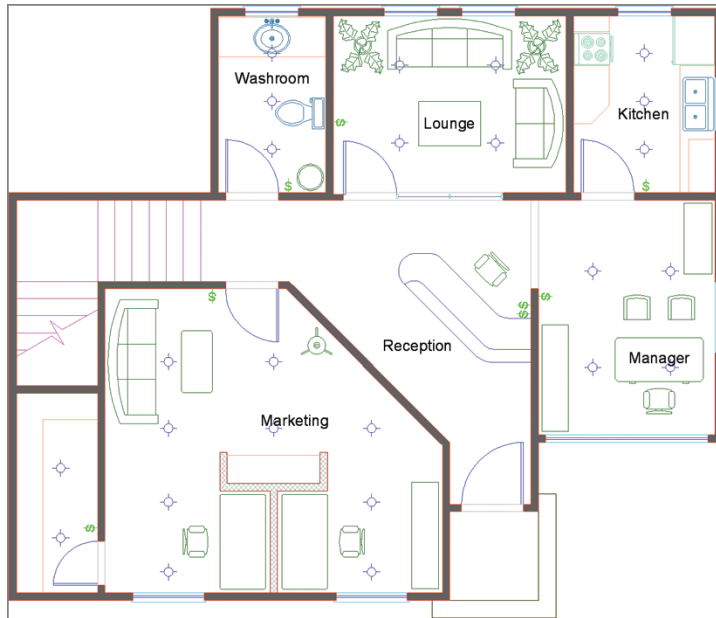

FIGURE 6.11 The Small Office plan with all layers on
2. Expand the Layers panel, and click the Turn All Layers On tool. You now see the switches (\$ symbols), downlights, and header layers. Figure 6.11 shows the result.